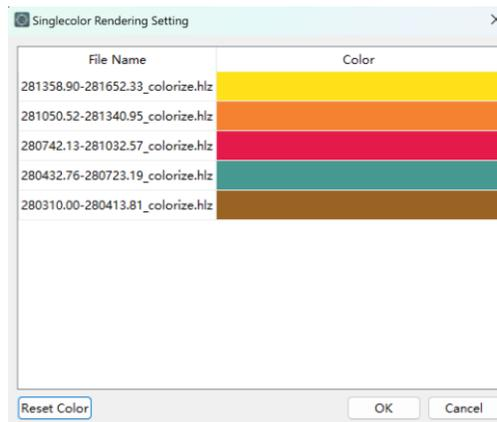

Figure 3-17 Single Color Rendering setting
- <Single Color Rendering Settings>: set the Single Color rendering color corresponding to each file loaded in the current software (Figure 3-17).
- (2) Click on the icon section, or the button  in the title bar of the view window to single color render the point cloud in the currently selected view according to the set color.